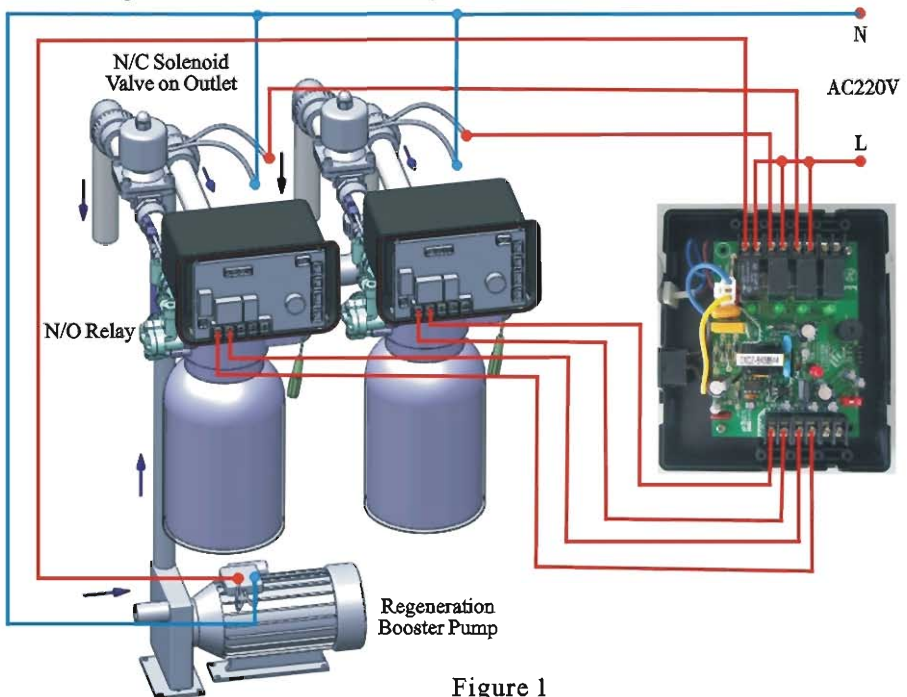
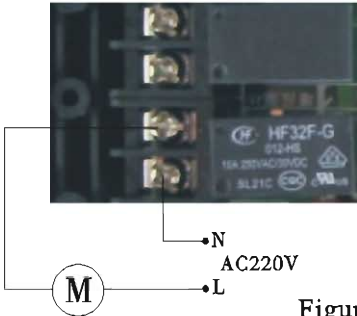
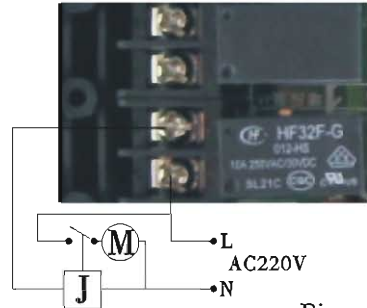

Figure 1
Figure 2
Figure 3
Before using, dial the switch on board to be: "1". Connect wires as figure 1. All of connectors on board are passive switches. When it is closed, the indicator light on.
Before using, dial the switch on board to be: "ON". Connect wires as figure 2. All of connectors on board are passive switches. When it is closed, the indicator light on.
- ① Two valves are meter type. Set signal output mode to be “b-01” of each valve before put them as one in service one standby system.
- ② Dial the switch to be “1” to be “One in service one standby” program. The set will be saved even through power is shut-off.
- ③ “Relay N/O port” is the normal open port of the third black connector on controller, “N/O”, “COM” port.
- ④ “Solenoid valve on outlet” is the AC220V normal close solenoid valve on outlet.
- ⑤ If system need connect with booster pump, connect with the bottom left two connectors in figure 1. If pump current < 5A, connect with controller directly (Figure 2); If current $\geq 5A$, it needs to connect with an AC relay (Figure 3).
- ① Three valves are meter type. Set signal output mode to be “b-01” of each valve before put them as two in service one standby system.
- ② Dial the switch to be “ON” to be “Two in service one standby” program. The set will be saved even through power is shut-off.
- ⑤ If system need connect with booster pump, connect with the bottom left two connectors in figure 1. If pump current $< 5A$, connect with controller directly (Figure 2); If current $\geq 5A$, it needs to connect with an AC relay (Figure 3).
For one in service one standby system as figure 1, connect transformer into AC100~240V/50~60Hz socket, dial switch on “1” position, all indicators light on for 1 second, then enter work status. Check the system if has one in service one standby function.
For two in service one standby system as figure 2, connect transformer into AC100~240V/50~60Hz socket, dial switch on “ON” position, all indicators light on for 1 second, then enter work status. Check the system if has two in service one standby function.